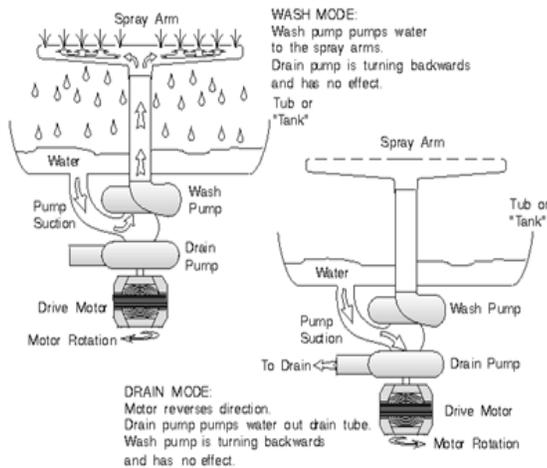

Fig.1.[1]\* Mechanical Work
- Fig.1.[1]\*[https://www.google.com/url?sa=i&url=https://www.fixya.com/support/12707527-door\\_detergent\\_holder\\_bosch\\_dishwasher&psig=AOvVaw3\\_hUwMGdkx-EMsYV7ScYt9&ust=1599643149670000&source=images&cd=vfe&ved=0CA0QjhxqFwoTCID\\_5amd2esCFQAAAAAAdAAAAABAK](https://www.google.com/url?sa=i&url=https://www.fixya.com/support/12707527-door_detergent_holder_bosch_dishwasher&psig=AOvVaw3_hUwMGdkx-EMsYV7ScYt9&ust=1599643149670000&source=images&cd=vfe&ved=0CA0QjhxqFwoTCID_5amd2esCFQAAAAAAdAAAAABAK)